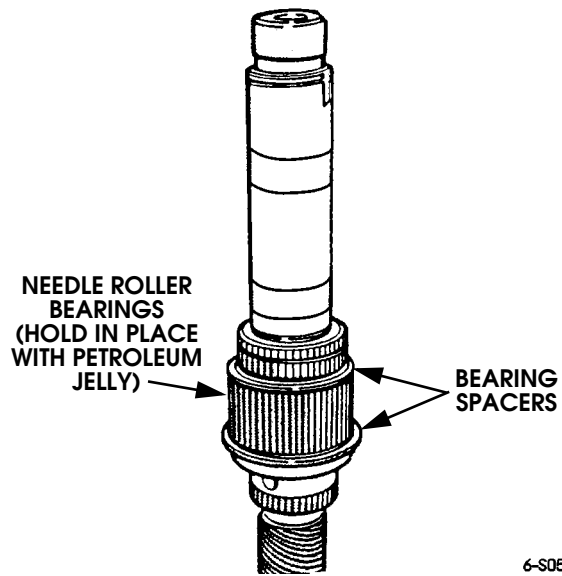

Figure 5-146: Mainshaft Bearing Roller Installation
10. Coat needle bearing surface of mainshaft with petroleum jelly. Then install first spacer, 53 needle bearings, and remaining spacer. Use extra petroleum jelly to hold needle bearings in place (Figure 5-146).